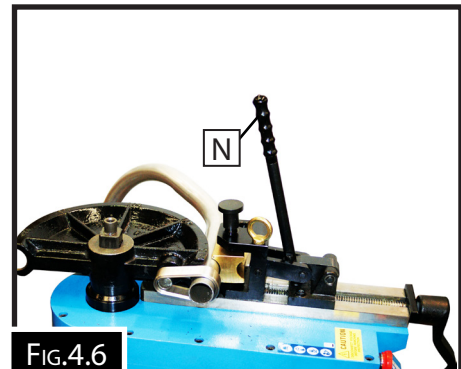

FIG.4.6
5. Move the Quick Positioning Guide Support lever (N in Fig.4.6) of the quick-positioning guide support away from the former, and into the locked position.